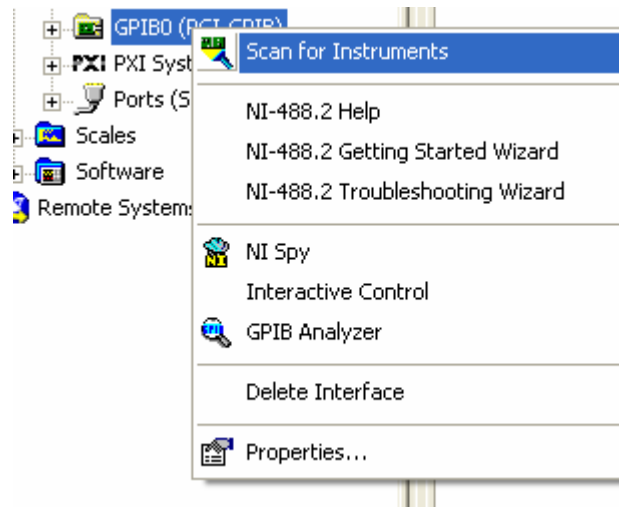
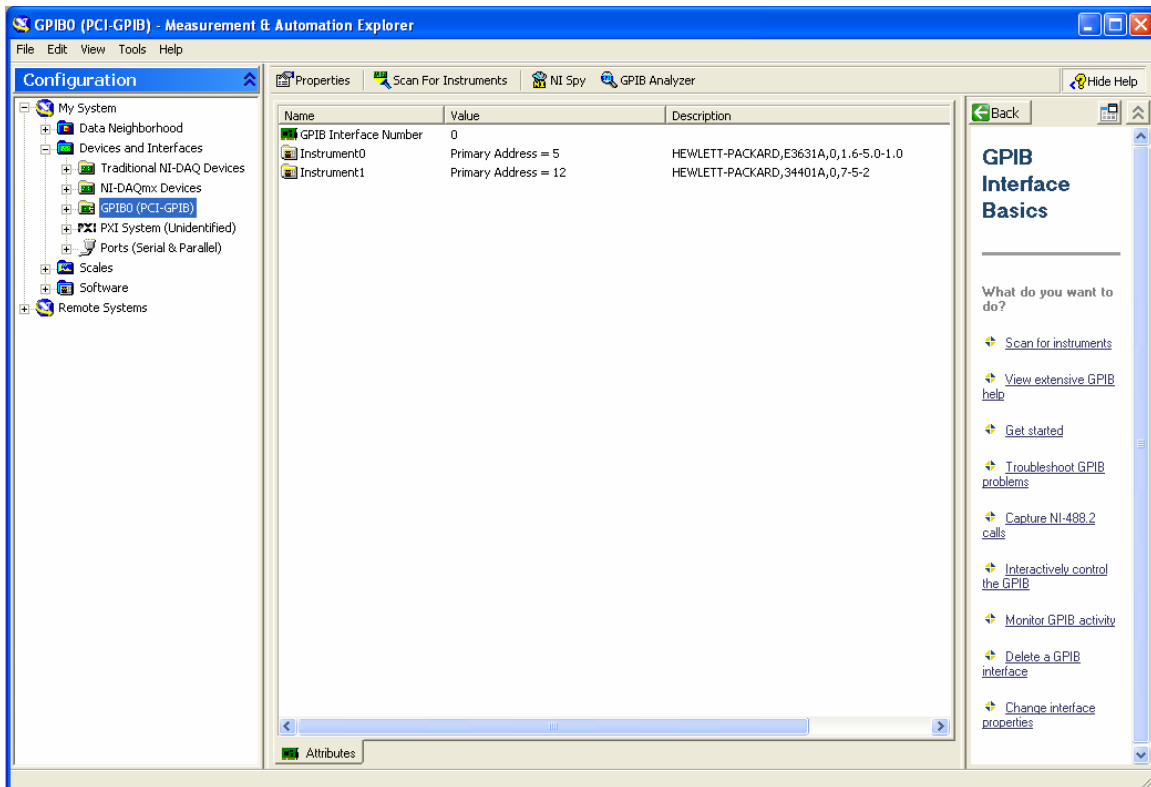

Figure 3. Scanning for instruments on the GPIB bus
Figure 4. Found two instruments: power supply (E3631A) on address 5 and multimeter (34401A) on 12.
4. Right click on **GPIB0 (PCI-GPIB)** and select **Scan for Instruments** as shown in figure 3 (**MAKE SURE THE MULTIMETER AND POWER SUPPLY ARE TURNED ON FIRST**). The result on my computer is shown in figure 4.